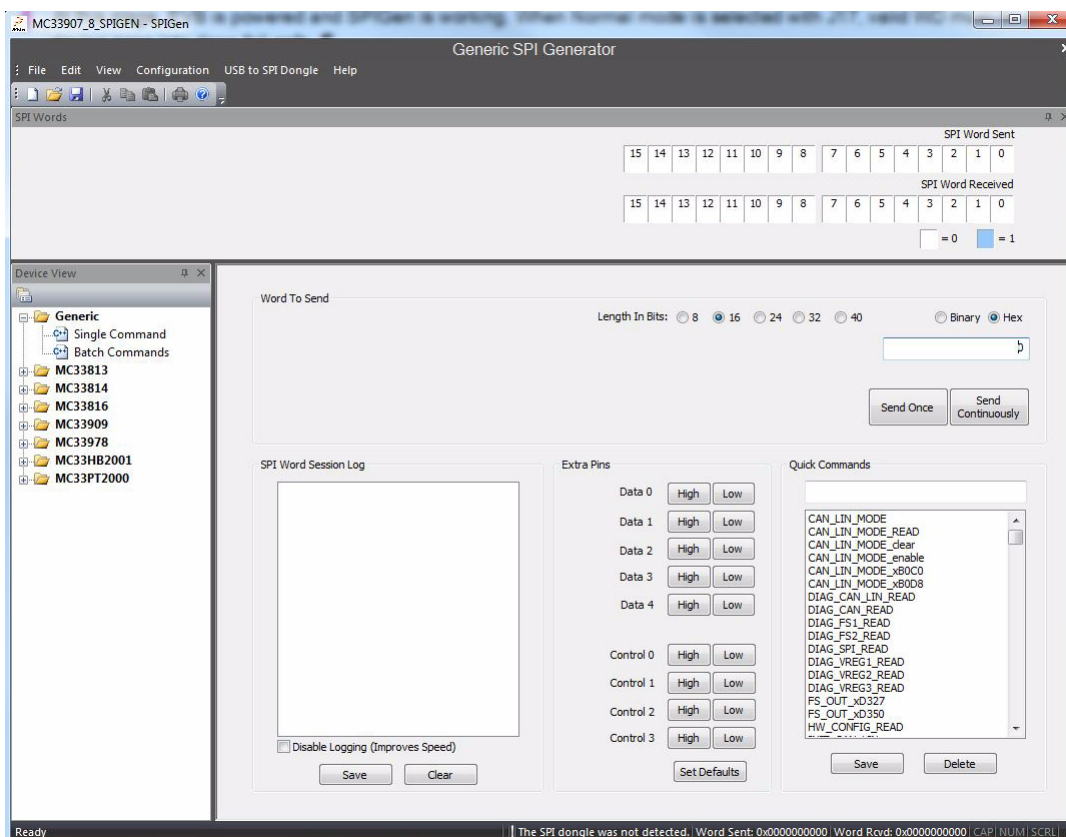

Figure 9. SPIGen Screen
2. From the SPIGen menu bar, click on FILE>Open and select the configuration file "MC33907_8_SPIGEN.spi" (previously downloaded in Section 6.1.1.) Figure 9 shows SPIGen screen with the configuration file installed.